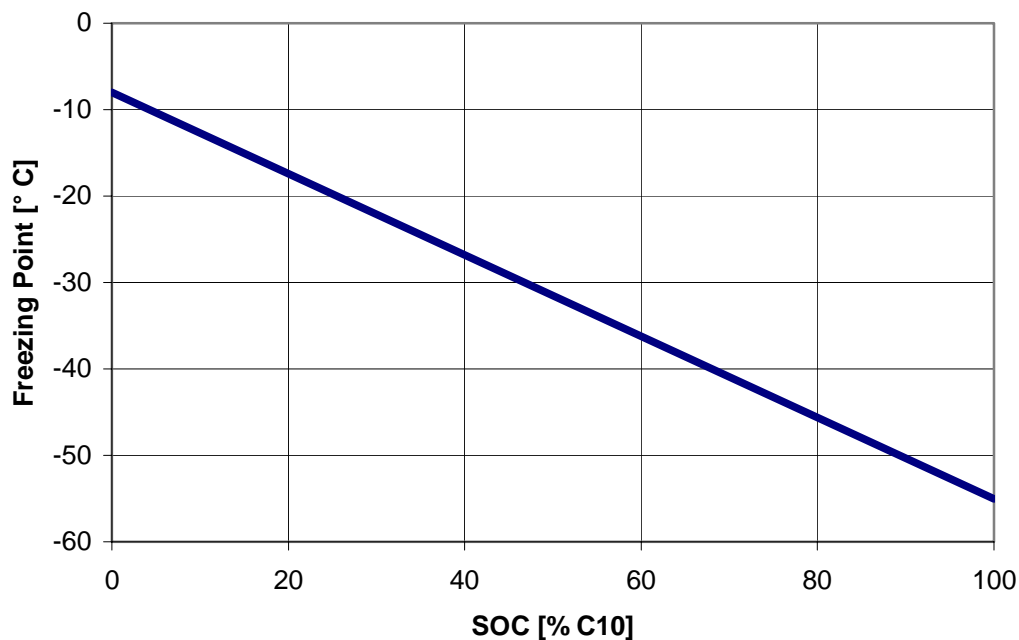

Fig. 12: Electrolyte Freezing Point vs. State of Charge (SOC)
- There is a risk at temperatures of approx. less than -8°C regarding freezing-in of the electrolyte depending on the depth of discharge and the withdrawn capacity, respectively (see fig. 12).